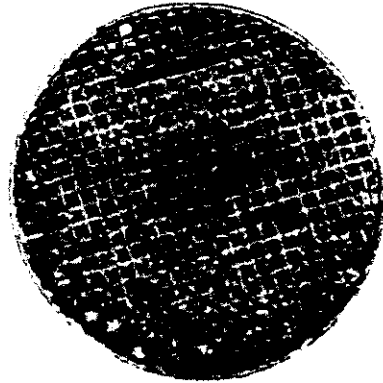

Figure 21
- Plugging (Figure 21)** The catalyst cells can be plugged with char, fly ash, or creosote. Burning garbage, cardboard, or wrapping paper produces excessive amounts of char and ash. Creosote plugging occurs when burning wet or pitchy wood or large loads on very low draft settings without